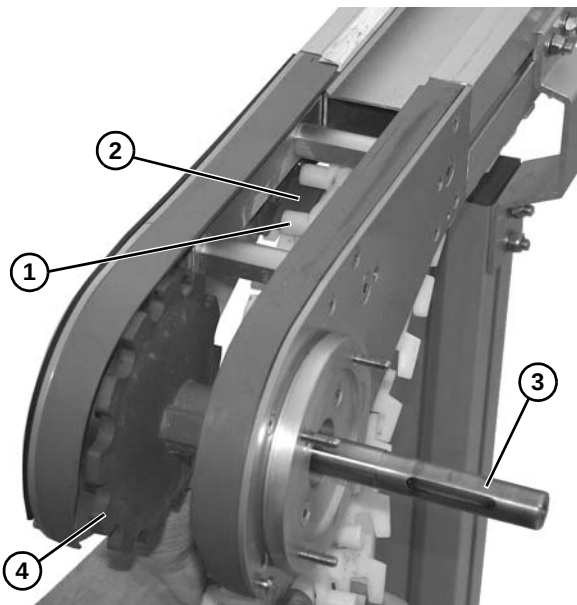

Figure 20
3. Continue wrapping belt (**Figure 20, item 1**) on top of idler tail retaining guide (**Figure 20, item 2**), continuing to turn shaft (**Figure 20, item 3**) to guide belt around cogs (**Figure 20, item 4**) of shaft.